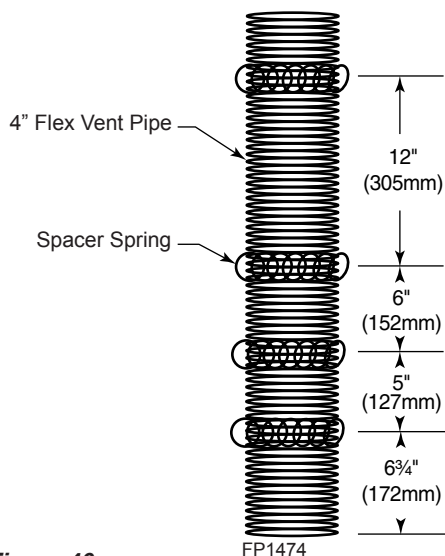

**Figure 46 -
Install the four (4) spacer springs on the 4" flex vent pipe. When installing the spacer springs around the 4" pipe, stretch the spring to approximately 15" (381 mm), wrap the spring around the pipe and interlock the ends of the spacer spring approximately 2" (51 mm). Measure 6¾" (172 mm) from the end of the pipe. Place the next spring 5" (127 mm) from the previously installed spring. Place the next spring 6" (152 mm) from the last spring. Finally place the last spring 12" (305 mm) from the last spring installed. *Figure 46*